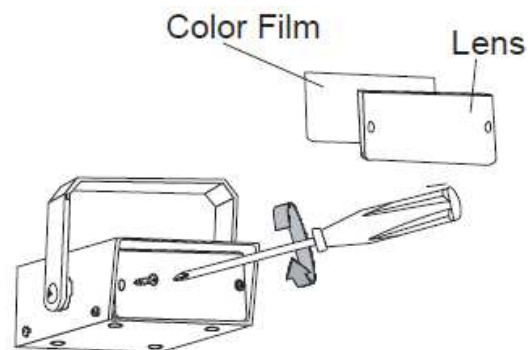

Figure 3
2. Place color film onto side of clear lens facing flashing strobe then tighten it by screw. - (reference to figure 3)